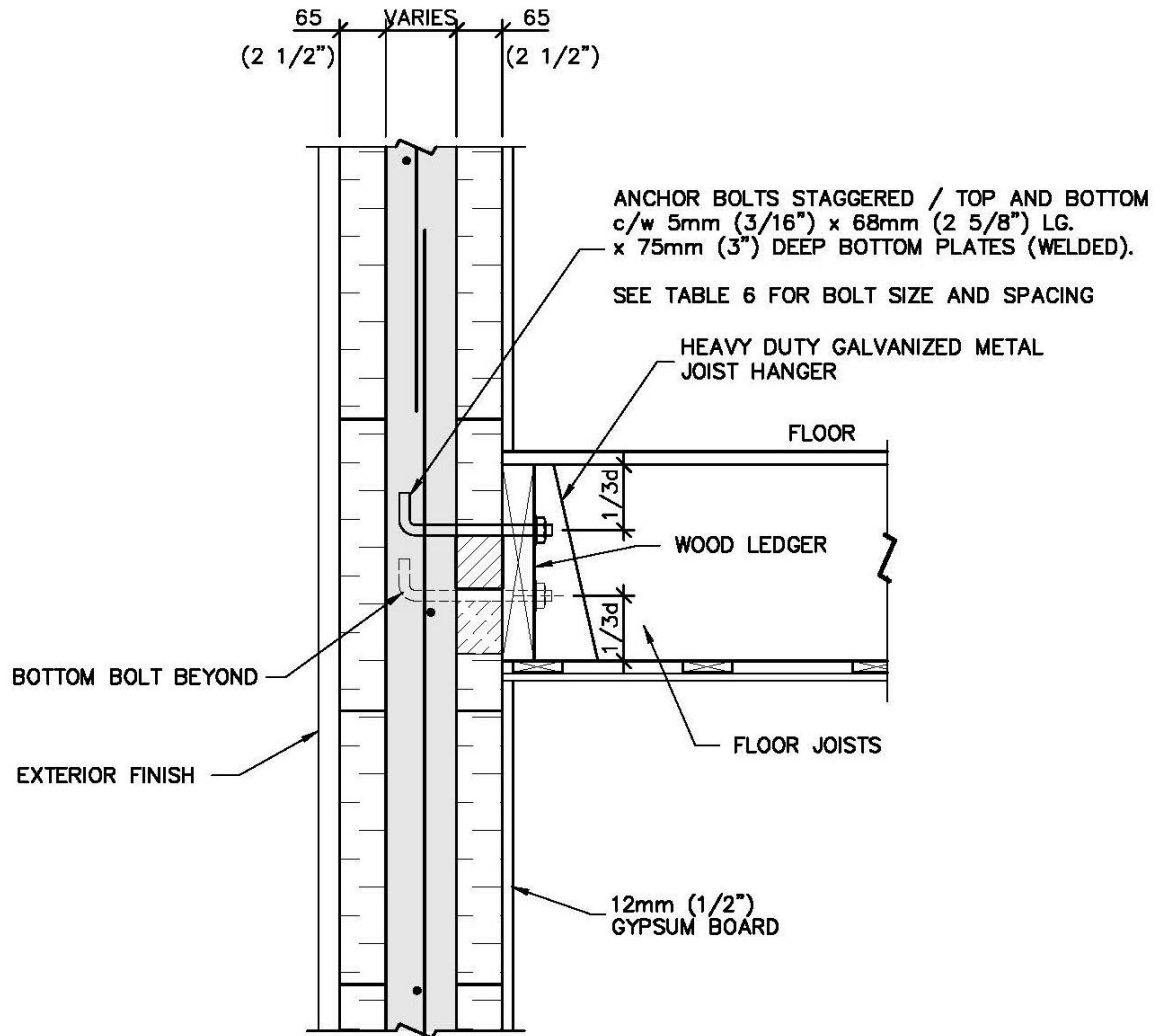

FIGURE 13.
1. Table to be read in conjunction with Figure 13.